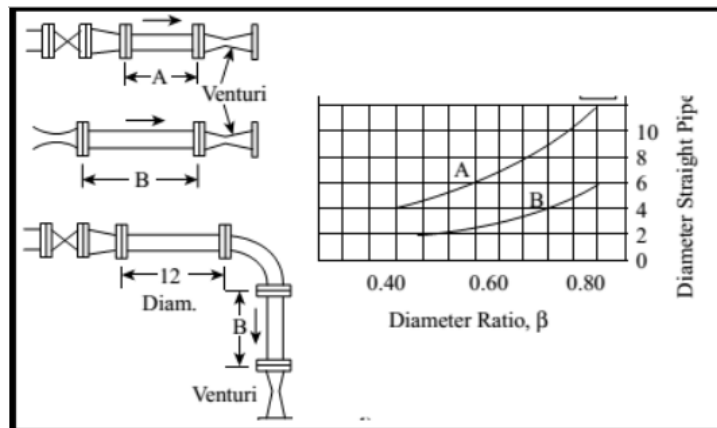

Fig.Q4C
- 4C. **Fig.Q4C** shows the piping requirements for various connections of a Venturi tube in a flow stream. Interpret different piping considerations to be taken care from the graph for different diameter ratios of the pipe. 2